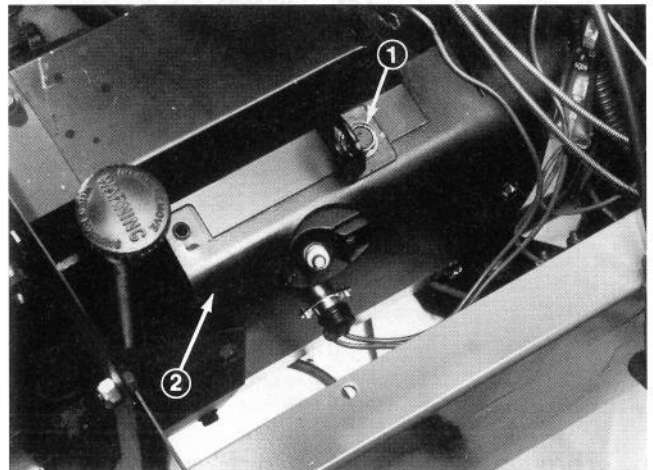

Figure 58
2. Remove self tapping screw retaining top of right engine housing (Fig. 58).